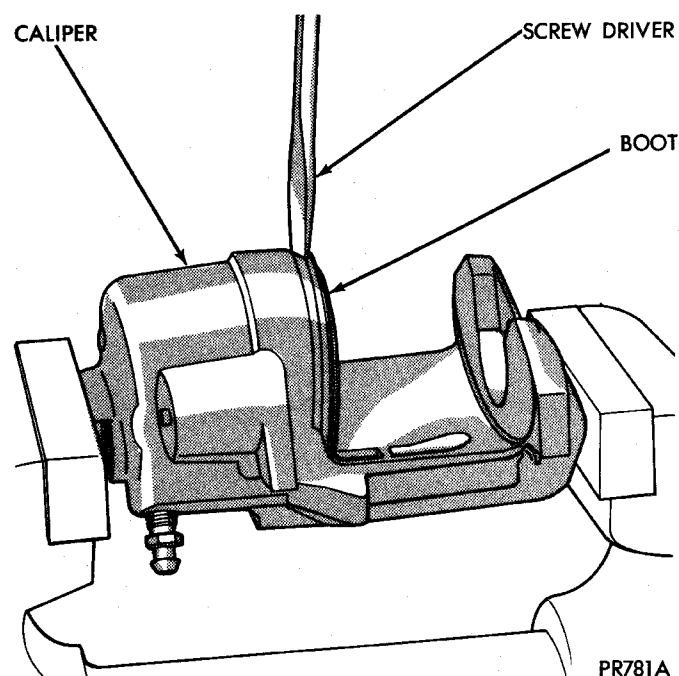

Fig. 175 Removing Caliper/Piston Dust Boot
(5) To disassemble caliper, mount in a vise equipped with protective jaws.
(6) Remove guide pin sleeves and guide pin bushings. See Removing Guide Pin Bushings in the caliper disassembly section of this manual.
(7) Remove the piston dust boot from the caliper and discard (Fig. 175).